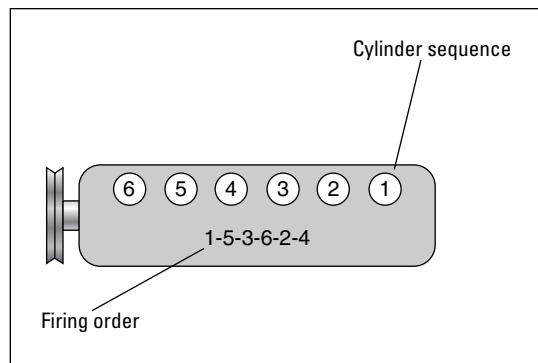

Figure 5-11: The cylinder sequence and firing order of an in-line U.S. 6-cylinder engine with rear-wheel drive.
- ✔ In all U.S.-made in-line 4- and 6-cylinder vehicles with rear-wheel drive, the cylinder nearest the front is called the #1 cylinder. The numbering for the rest of the cylinders (#2, #3, #4, and so on) runs in sequence back toward the rear of the engine compartment (see Figure 5-11).